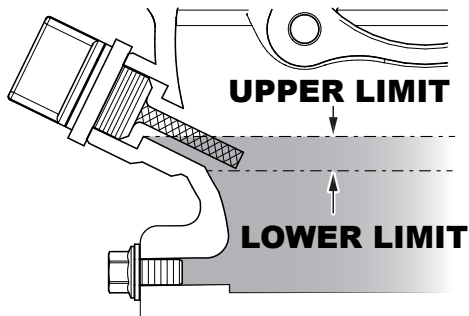

Figure 31. Engine Oil Dipstick (Oil Level)
4. If the oil level is low (Figure 31), fill to the edge of the oil filler hole with the recommended oil type as listed in Table 5. Refer to Table 2 for maximum engine oil capacity.